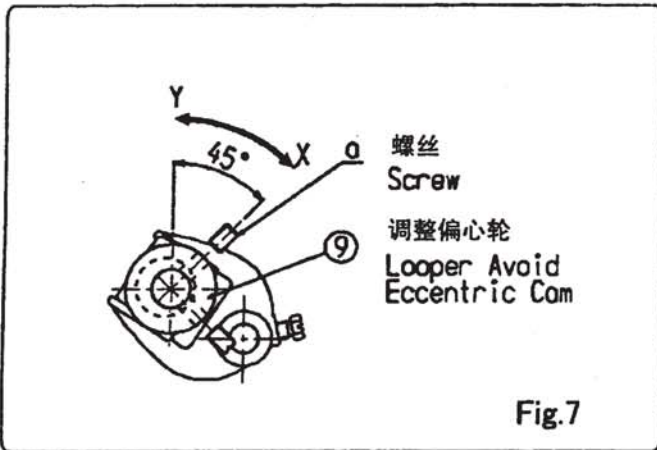

Fig.7
Clearance between Needle and Loper as Loper passes this side of Needle in its backward movement should be 0.05 to 0.5mm Loper Avoid Eccentric Cam ⑨ is used for adjustment. Slant of Loper can be increased by turning Loper Avoid Eccentric Cam ⑨ in direction of 'X' (Fig.7), and decreased by turning it in direction of 'Y'.
To facilitate adjustment, first adjust Loper Avoid Eccentric Cam ⑨ so that its set screw (a) is located as 45°, as shown in Fig.7, when nut (b) of Fig.2, is in its highest position.